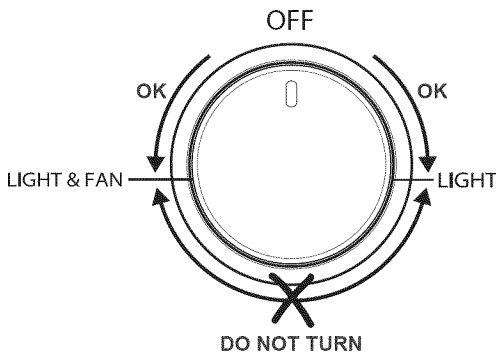

Fig. 3.2
The oven light and the fan motor are controlled by a switch knob on the control panel (fig. 3.2). To light up the oven lamp turn the knob clockwise to LIGHT position.
- During ignition of the oven burner, the fan motor shall be switched off (light and fan control knob in “OFF” position – Fig. 3.2).
After lighting the oven burner switch on the fan motor by turning the LIGHT & FAN control knob (fig. 3.2) on "LIGHT & FAN" position.